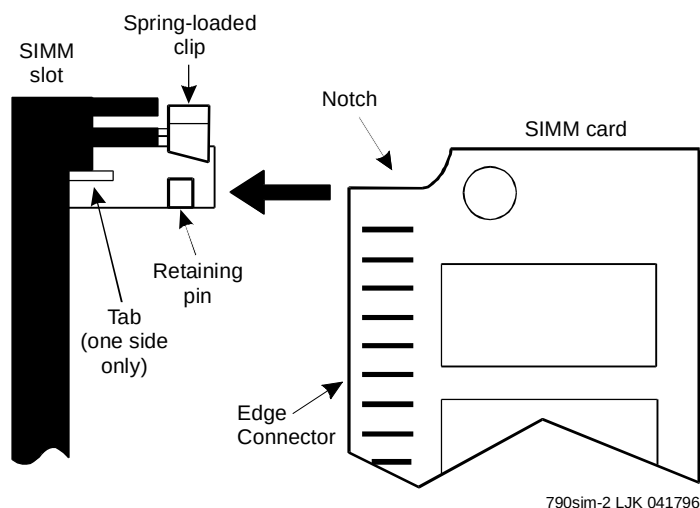

Figure 11-8. Align the SIMM with the SIMM Socket
3. Locate the Notch cutout area on one corner of the SIMM. See Figure 11-8. See WARNING.
(See Figure 11-8).